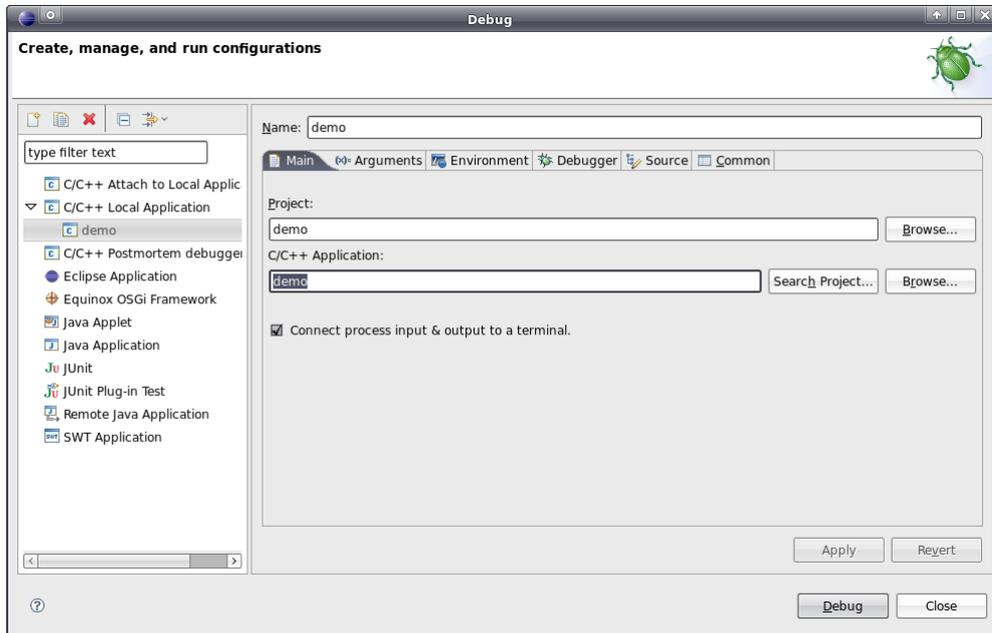

Figure 58: Determining the application that is to be debugged
The configuration of the Debugger in the IDE is only necessary once upon first call. The configuration takes place within "Eclipse" via menu item "**Run -> Debug...**". Thus, a configuration dialog opens as shown in Figure 58. Hence, follow the steps listed below:
2.1 Determining the program that is to be executed in the Debugger (see Figure 58)